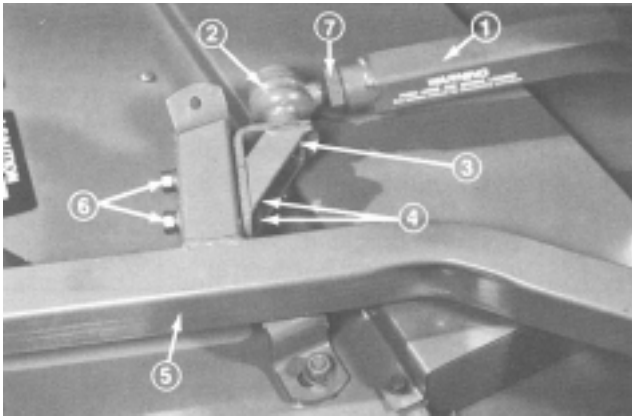

Figure 13
3. Secure the ball joint mount (Fig. 13) to the mount bracket with 2 capscrews (7/16 x 3 in.), flat washer (7/16 in.), and nuts (7/16 in.). The head of the capscrews and flat washer must contact the ball joint mount.
4. Tighten the large jam nut against the front of the left push arm (Fig. 13). When tightening the jam nut, hold the ball joint straight to permit proper oscillation during raising and lowering of the cutting unit.